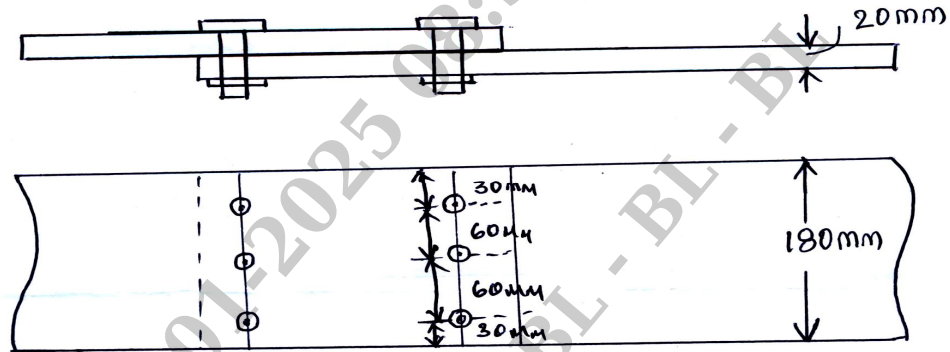

Fig.Q3(b)
- b. Find the efficiency of the lap joint shown in the Fig.Q3(b). Given M_{20} bolts of 4.6 grade, Fe_{410} plates are used.